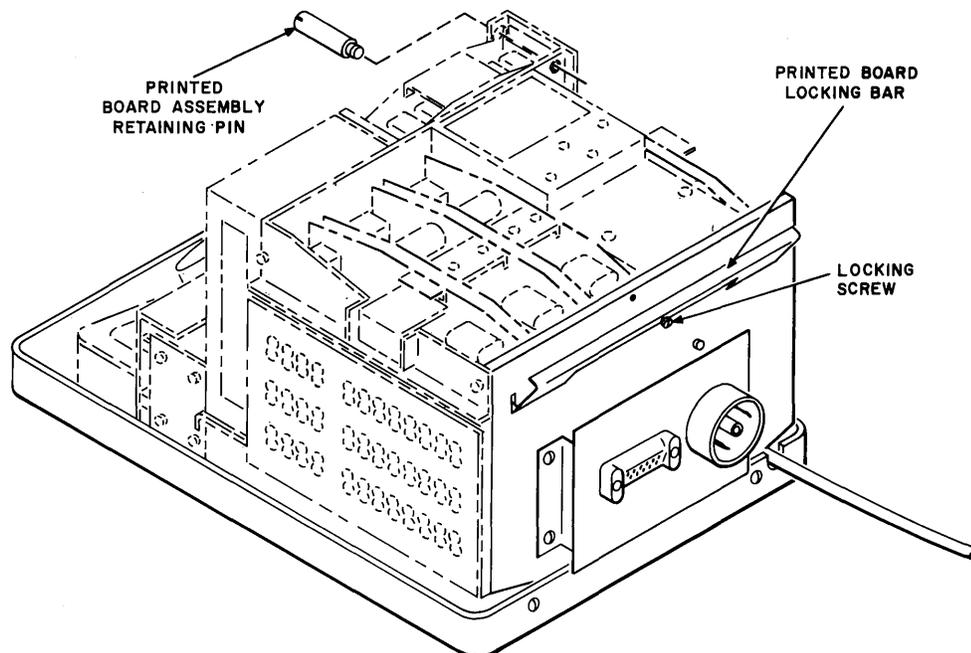

Fig. 12—Printed Board Assembly—Angle Retaining Bracket
4.03 For data sets equipped with the angle retaining bracket (Fig. 12), follow the procedure in 4.01 and substitute the angle retaining bracket for the retaining pin.